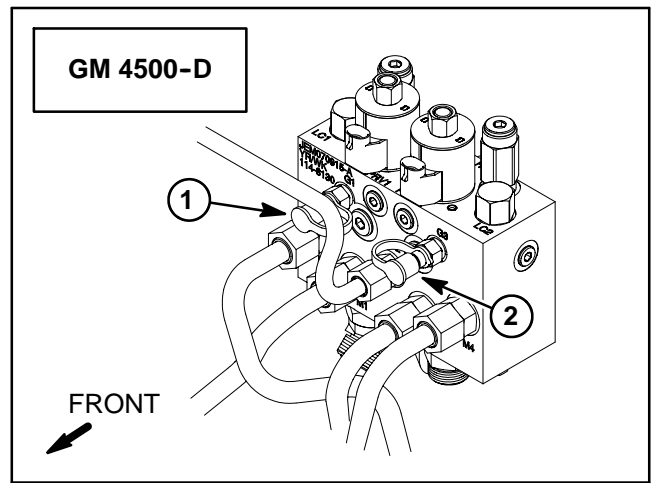

Figure 41
4. Install 5000 PSI (350 bar) pressure gauge with hydraulic hose attached to deck control manifold test port for the cutting deck circuit to be tested (Fig. 41 or 42).